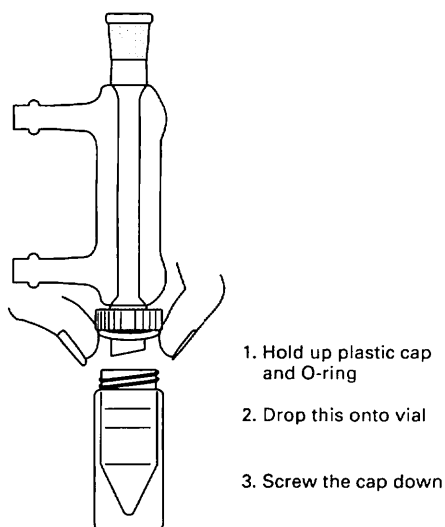

Fig. 32 O-ring cap seal on husky apparatus.
1. Get a conical vial (appropriate size) that'll fit on the end (male joint) of the condenser (Fig. 32).